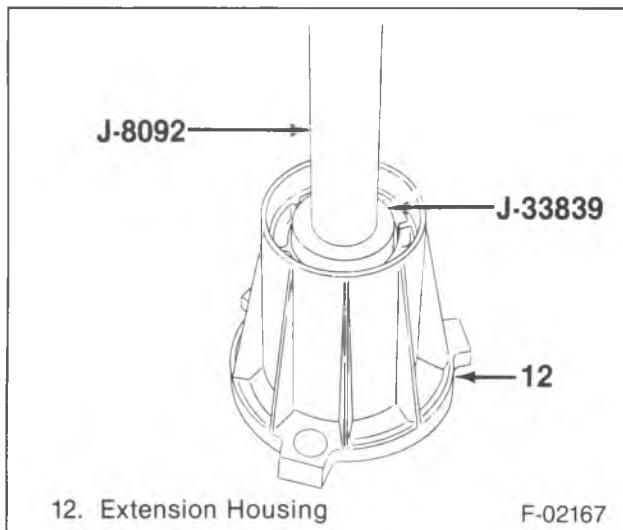

Figure 17—Extension Housing Bushing Removal
- 40. Front output shaft bearing (54), using a hammer and drift.
- 41. Extension housing bushing (14).
- Use J 33839 with J 8092. Press the bushing out (figure 17).